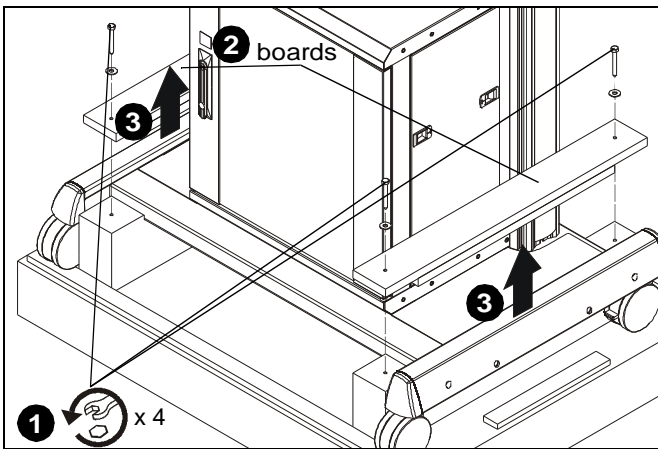

Figure 1
1. Use 1/2" socket head wrench to remove four bolts and washers holding XVAU cart (A) to packaging pallet. (See Figure 1)
2. Remove two packaging boards from top of pallet. (See Figure 1)
3. Using two people, carefully lift XVAU cart from packaging pallet. (See Figure 1)